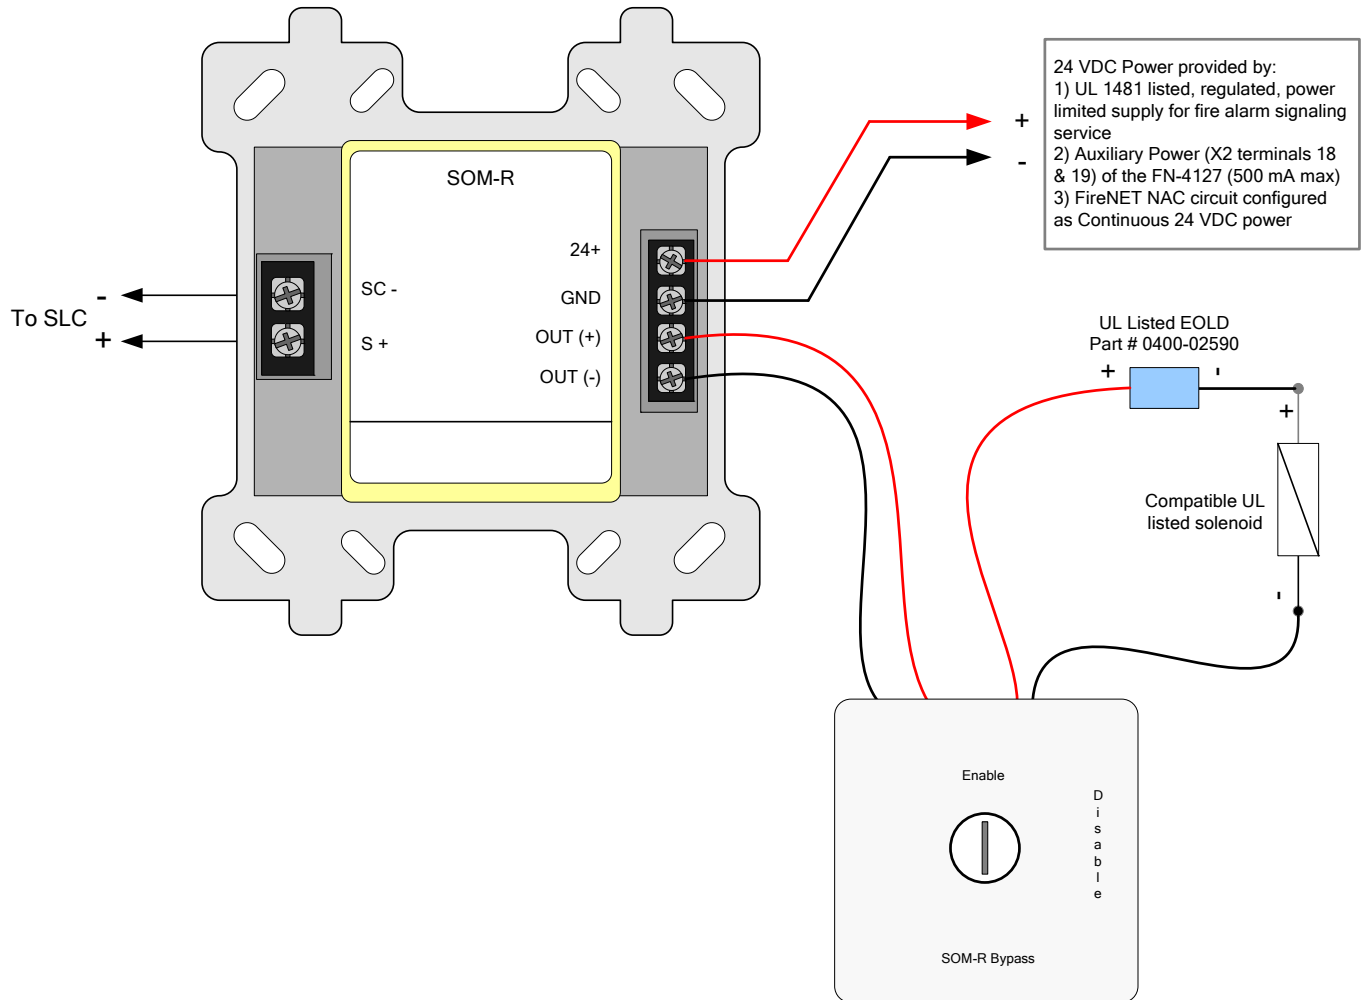

Figure 5.13.1 SOM-R Supervised Output Module Detail
2. The SOM-R must be addressed using the TCH-B100 programmer. Connect the SOM-R to the FireNET Plus SLC as shown in Figure 5.13.1. Refer to the installation instructions (Part # 1700-11320, Rev. 05/10) included with the SOM-R for additional wiring and installation instructions.
6. Connect the output terminals on the keyswitch disable module to the solenoid. Ensure that the EOLD is properly connected to the circuit as shown in Figure 5.13.1 above.